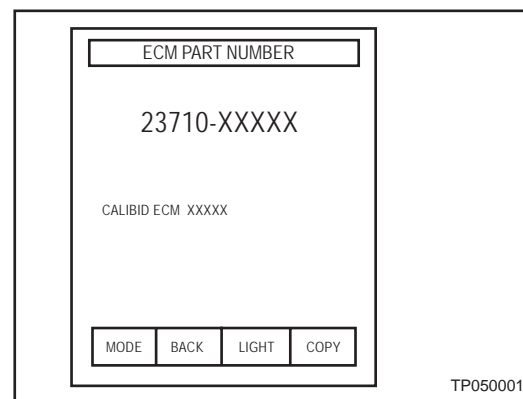

Figure 1
- Figure 1 is an example of the ECM P/N printout.
- Use the ECM P/N printout (see example on Page 2, Figure 1):